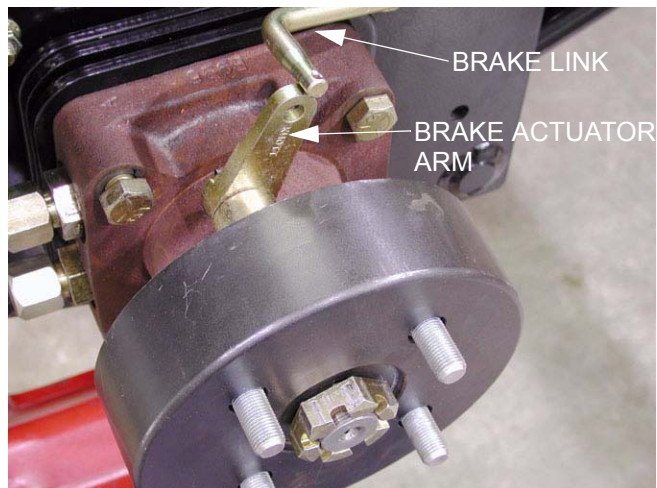

Figure 3.7
- 3.7. If in doubt about the source of brake drag, disconnect the brake link rod from the actuator arm on the brake assembly. The actuator arm should return to center, releasing the brakes. See Figure 3.7.